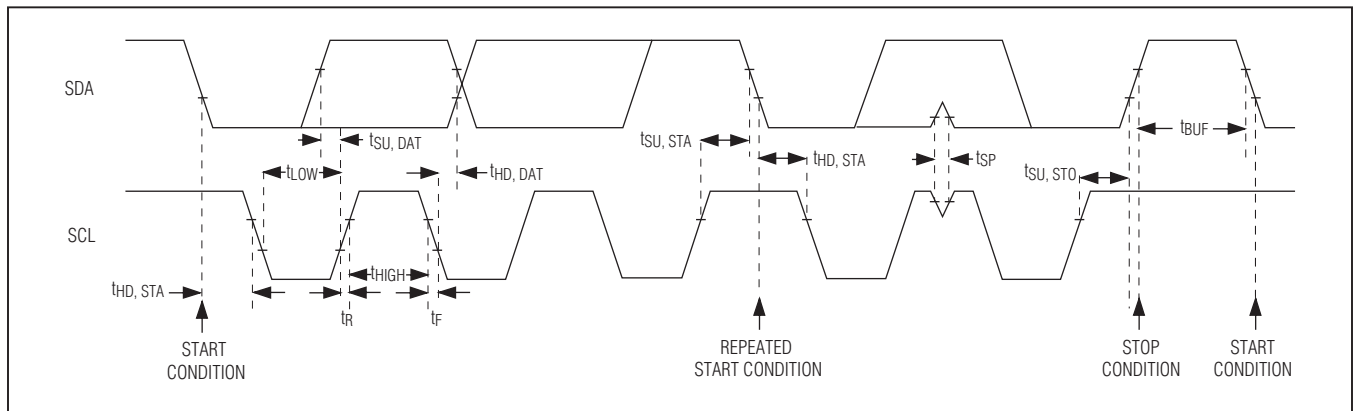

Figure 3. 2-Wire Interface Timing Diagram
The devices feature an I2C /SMBus™-compatible, 2-wire serial interface consisting of a serial data line (SDA) and a serial clock line (SCL). SDA and SCL facilitate communication between the devices and the master at clock rates up to 400kHz. Figure 3 shows the 2-wire interface timing diagram. The master generates SCL and initiates data transfer on the bus. A master device writes data to the devices by transmitting the proper slave address followed by the register address and then the data word. Each transmit sequence is framed by a START (S) or Repeated START (Sr) condition and a STOP (P) condition. Each word transmitted to the devices is 8 bits long and is followed by an acknowledge clock pulse. A master reading data from the IC transmits the proper slave address followed by a series of nine SCL